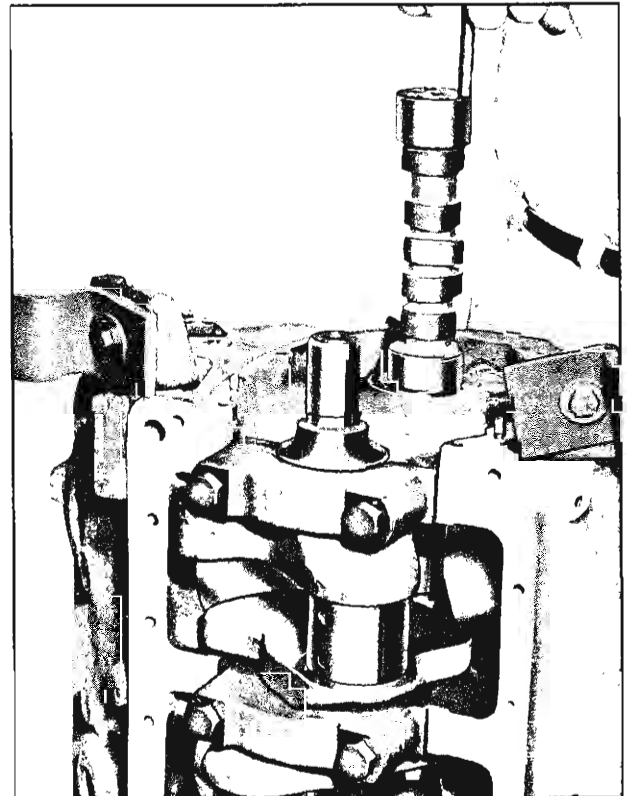

Fig. 147—Removing Camshaft
8. Install a $\frac{5}{16}$ "-18x4" puller bolt (a tee handle can be made by welding two $\frac{5}{16}$ "-18x4" bolts together. Remove camshaft from engine (fig. 147).